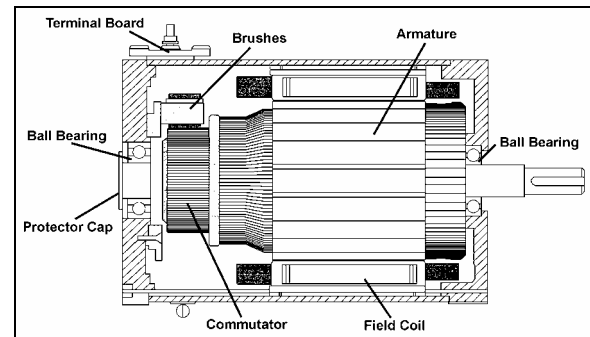

FIGURE 27: CONDENSER FAN MOTOR
Two fan motors (Fig. 27), 28.5 V - (0.6 HP - 0.42 kW) and cages are installed in the condenser compartment on R.H. side of vehicle in order to ventilate the condenser coil. They are mounted on a support, fastened to the floor. The fans pull outside air through the condenser coil and discharge it through an opening at bottom of compartment. When temperature drops inside condenser, the pressure in the refrigerant line also drops and it is, therefore, no longer required to cool condenser. Consequently, when pressure drops to 130 psi, the motors will run at low speed and if the pressure continues to drop to 90 psi, a pressure switch stops the motors so that fans do not operate needlessly. When pressure rises to 120 psi, the pressure switch reactivates the motors. If the pressure rises to 170 psi, the motors will switch to high speed.
2. Unscrew the flange retaining screws on the shaft end side (opposite to the commutator end frame), and separate flange from frame (Fig. 27).